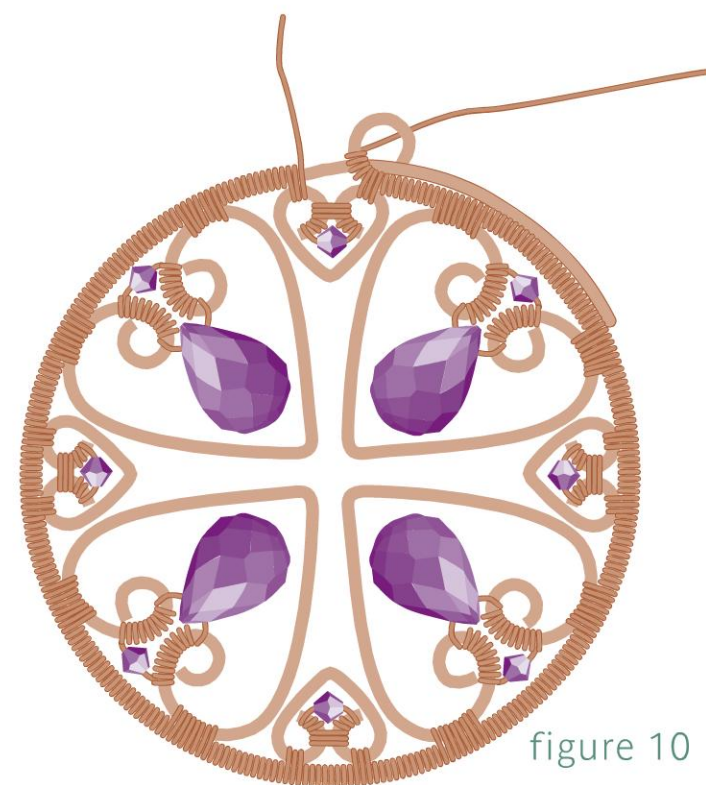

figure 10
**24** Push the outer frame wire together to determine where the small heart added in Step 20 will be attached and mark the outer frame. Coil to this mark, then coil the first mini heart's second loop to fully attach it (Figure 10).